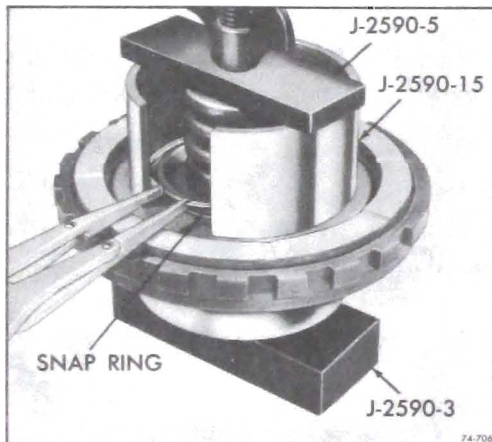

Figure 76-722
6. Using the Clutch Spring Compressor, J-2590, compress the springs and install the snap ring. See Figure 76-722.